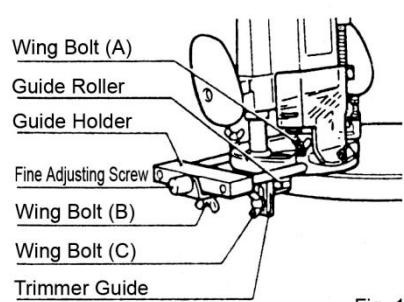

Fig. 12
Install the trimmer guide on the guide holder with the wing bolt (B). Insert the guide holder into the holes in the tool base and tighten the wing bolt (A). To adjust the distance between the bit and the trimmer guide, loosen the wing bolt (B) and turn the fine adjusting screw (1.5 mm or 1/16" per turn). When adjusting the guide roller up or down, loosen the wing bolt (C). After adjusting, tighten all the wing bolts securely. (**Fig. 12**)